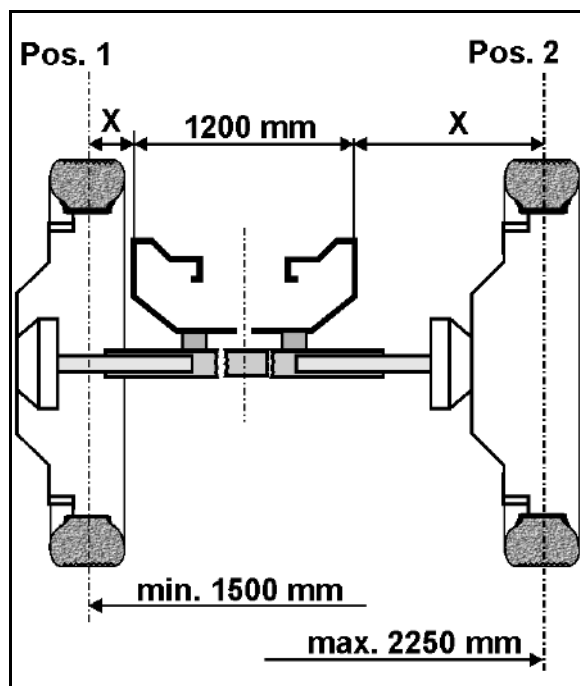

Fig. 118
- Stepless from 1,500 mm to 1,960 mm for wheel installation as per position 1 (Fig. 118).
- Stepless from 1,700 mm to 2,250 mm for wheel installation as per position 2 (Fig. 118).
5. Release the clamping screws (Fig. 118/1).